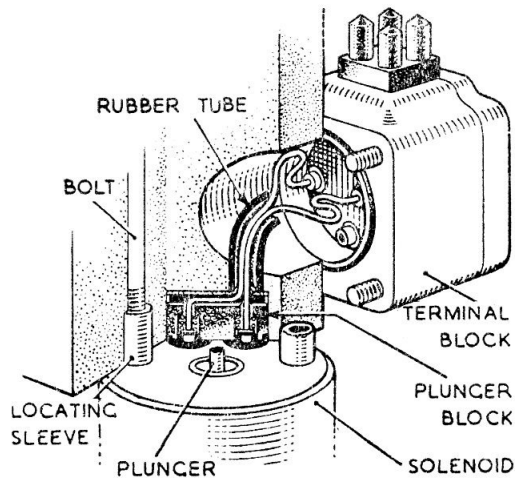

Fig. 2. Sectional view of electrical connections
7. The solenoid is positioned so that the contact pins will meet the contacts of the plunger block in the valve body (fig. 2). Securing bolts pass through the valve body from the opposite side and screw into the locating sleeves to secure the solenoid to the valve.